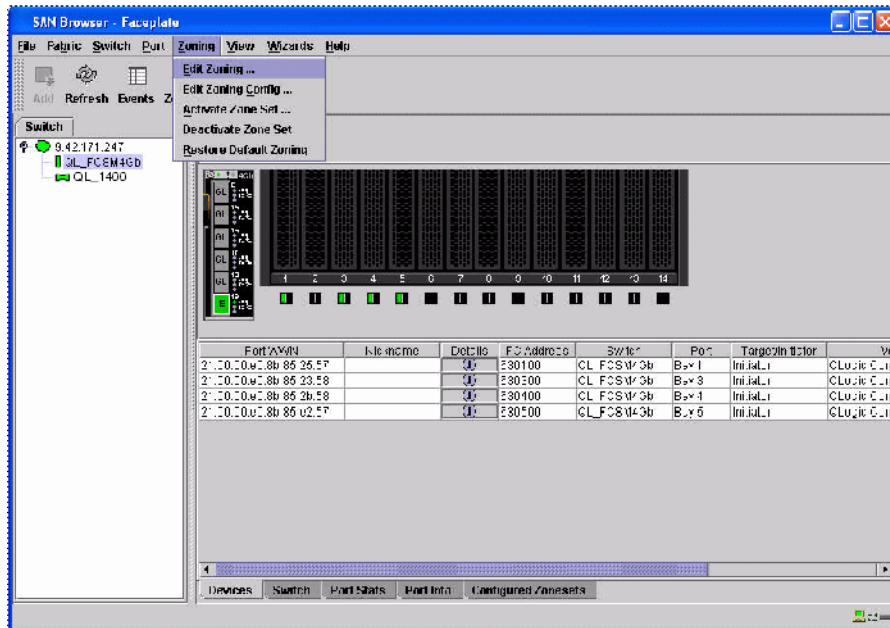

Figure 7-51 SAN Browser - Faceplate window
10. In the left panel, highlight QL_FC5M4Gb. From the Faceplate dialog window, select **Zoning** → **Edit Zoning** (Figure 7-51).